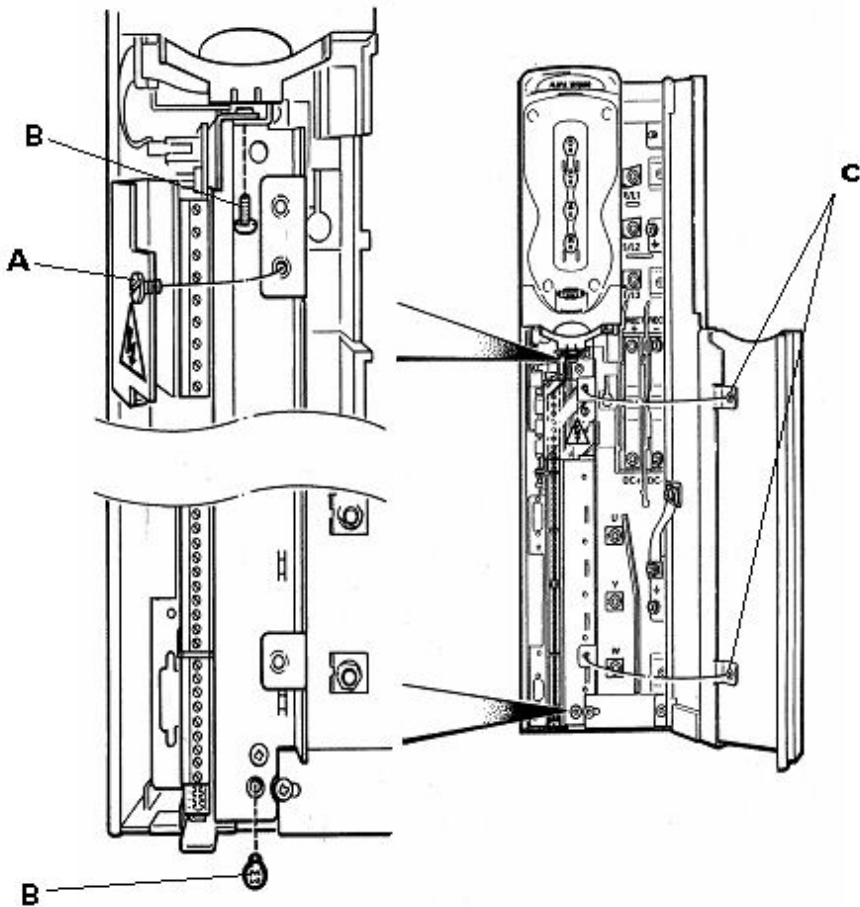

Figure 3-1. – Drive Module: Access & Release the CDC Cassette
- b) Refer to Figure 3-1 and fully open the drive doors as follows:
- c) Release the screw (A) securing the plastic terminal shroud.
- d) Remove and retain the two screws and washers (B) securing the CDC cassette to the drive chassis.